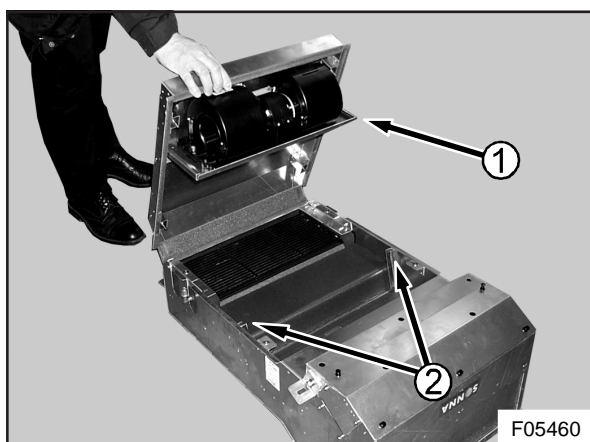

Figure 2 : Front unit bottom plate with fan motor base and guides
- Carefully lower the bottom plate by sliding the fan motor base (1, Figure 2) out of its guides (2, Figure 2). Disconnect the fan assembly power plug.